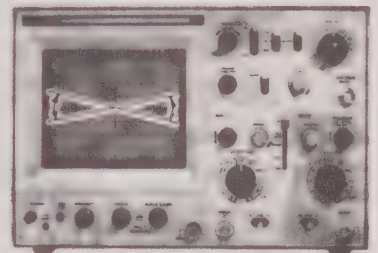

Figure 5-2
| <p>1 POWER ON/OFF</p> <p>2 POWER ON</p> <p>3 INTENSITY</p> <p>4 FOCUS</p> <p>5 TRACE ROTATION</p> <p>6 SCALE ILLUM</p> | <p>Power switch; press in for ON, press to release for OFF.</p> <p>LED indicator; lights to indicate that power is applied.</p> <p>Controls the brightness of the trace displayed on the CRT. The brightness increases when the knob is turned clockwise (CW). For the best display, adjust the control to the brightness appropriate for the signal observed.</p> <p>Focus control; corrects a defocused trace. The instrument has an automatic focusing circuit incorporated so that, once adjusted, readjustment is not required with changes in the brightness.</p> <p>Compensates for deflection caused by the magnetism of the earth. (See Figure 5-2).</p> <p>Controls the illumination of the scale and is useful in a dark room or for photography.</p> |